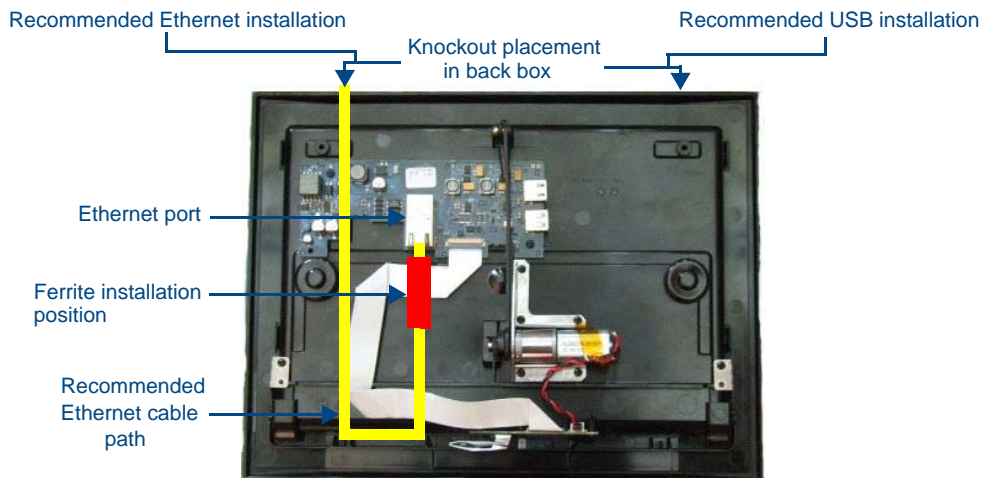

FIG. 14 MVP-WDS-9 - Ethernet cable path
7. Attach the included snap-on ferrite to the Ethernet cable, as close to the RJ-45 connector as possible. Attach the cable to the Ethernet Port (FIG. 14).